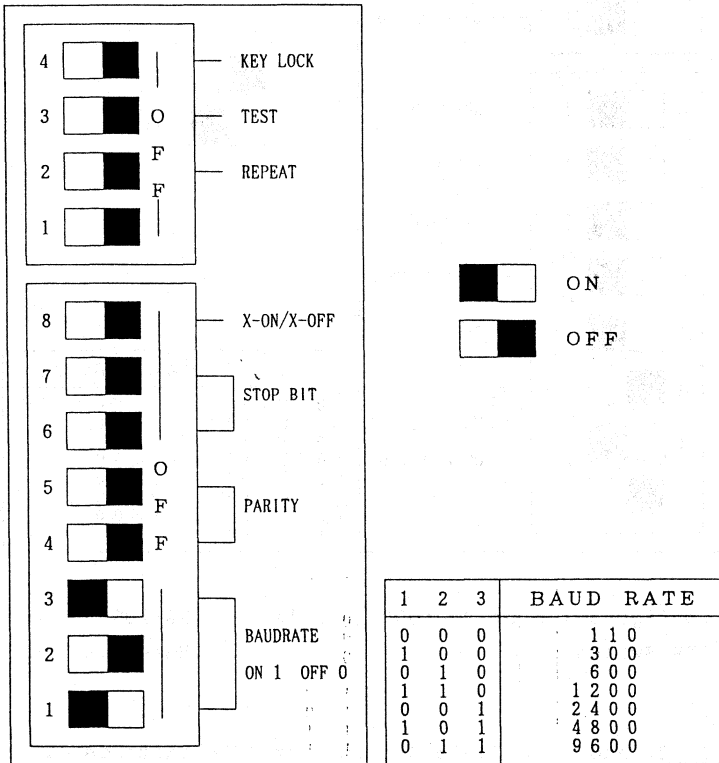
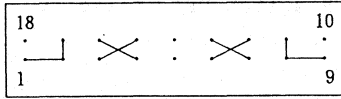

Fig. 3-3 Configuration of PG-2000 DIP Switch
Fig. 3-5 JP3 Jumper Setting
(3) When using the PG-2000, set the DIP switch located at the bottom of the PG-1000 according to Fig. 3-3. The baud rate should be set to the same setting as the IE controller module.
- 2 In Fig. 3-3, 1 indicates ON, and 0 indicates OFF.
(4) Setting of IE-7811H
- (a) Change the jumper settings of JP3 according to Fig. 3-5.
Set JP3 as shown in Fig. 3-5.